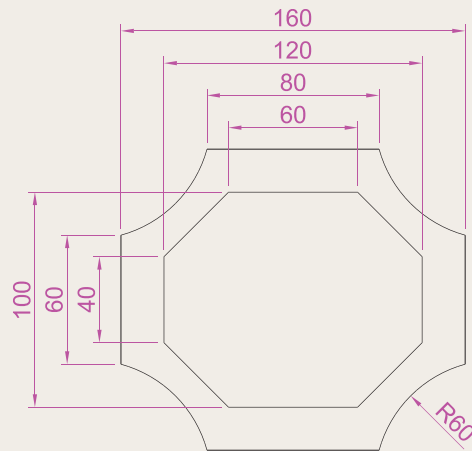

Fig. 3.53 Exercise 9
9. Construct the drawing shown in Figure 3.53 using the **Line** and **Arc** tools. Then, with the aid of the **Multiple** prompt of the **Edit Polyline** tool, change the outlines into plines of **Width = 1**.